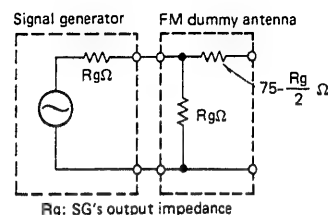

Fig. 5
3. FM dummy antenna shows Figure 5.